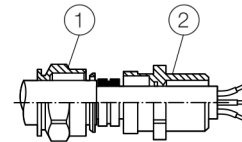

Figure 2: Tighten cable glands
IP rating IP66 / 67 is only achieved by installing the black neoprene sealing ring between the cable gland and the housing and by observing the tightening torque of 3.6 Nm (Figure 2, item ②).
5. Tighten the cable gland until the cable is firmly enclosed by the sealing ring (Figure 2, item ①). Do not tighten more than 1.5-times of the specified torque on the housing (see assembly instructions for cable gland)!